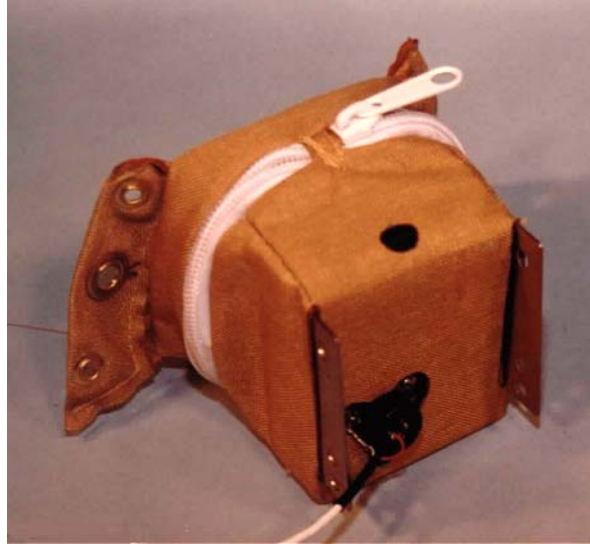

Figure 9.7- Bag assembled to mounting plate
7. Pass the electrical cable for the string transducer through the “clover-shaped” hole in the rear of the Bag Assembly (T1UAF300) from the inside to the outside, until it is possible to insert the entire assembly into the rear of the bag. Ensure that the holes in the bag and the flanges of the bracket are properly aligned. Proper assembly of the fabric bag to the mounting plate is shown in **Figure 9.7**.